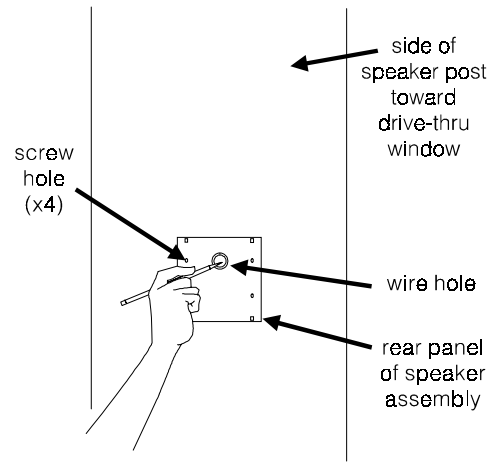

Figure 16.
- Hold the rear panel of the SP2500LP flat against the surface of the speaker post or menu board, at the desired mounting location, as shown in Figure 16. Use a pencil to mark the speaker post through the wire hole in the panel. Remove the panel and set it aside. Drill a 1/4 inch (6 mm) wire hole at the marked location.